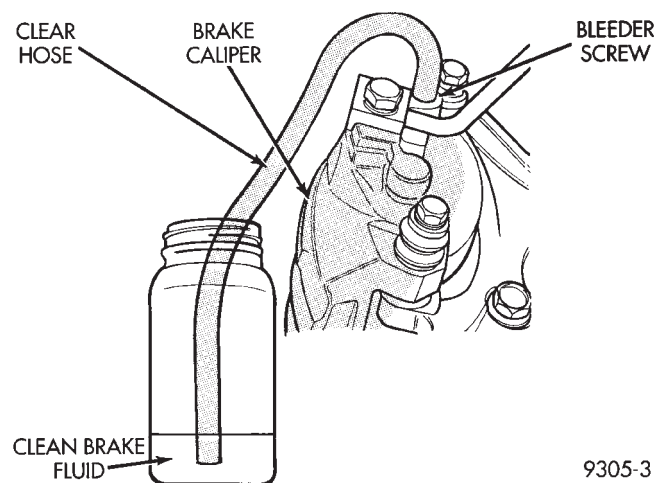

Fig. 28 Proper Method for Purging Air From Brake System
(1) Remove rubber dust caps from all 4 bleeder screws.
(2) Attach a clear hose to the bleeder screw at one wheel and feed the hose into a clear jar containing fresh brake fluid (Fig. 28).
(3) Open bleeder screw (Fig. 28) on caliper assembly or wheel cylinder, at least **one full turn** or more to obtain an adequate flow of brake fluid.
(4) After 4 to 8 ounces of brake fluid has been bled through an individual wheel's brake hydraulic system. And an air-free flow (no bubbles) is maintained in the clear plastic hose and jar, this will indicate a good bleed of this individual hydraulic circuit.
(5) Repeat the procedure at all the other remaining bleeder screws. Then check the pedal for travel. If pedal travel is excessive or has not been improved. Enough fluid has not passed through the system to expel all the trapped air. Be sure to monitor the fluid level in the pressure bleeder. It must stay at the proper level so air will not be allowed to re-enter the brake system through the master cylinder.
(6) Replace all 4 bleeder screw rubber dust caps.
(1) Remove rubber duct caps from all 4 bleeder screws.
(3) Pump the brake pedal three or four times and hold it down before the bleeder screw is opened.
(4) Then open the bleeder screw at least 1 full turn. When the bleeder screw opens the brake pedal will drop all the way to the floor.
(5) Release the brake pedal only **after** the bleeder screw is closed.
(6) Repeat steps 1 through 3, four or five times at each bleeder screw. This should pass a sufficient amount of fluid to expel all the trapped air from the brakes hydraulic system. Be sure to monitor brake fluid level in master cylinder fluid reservoir, to ensure it stays at a proper level. This will ensure air does not re-enter brake hydraulic system through master cylinder.
(7) Only after a short stroke and solid brake pedal feel is obtained, test drive vehicle to ensure brakes are operating correctly.
(8) Replace all 4 bleeder screw dust caps.